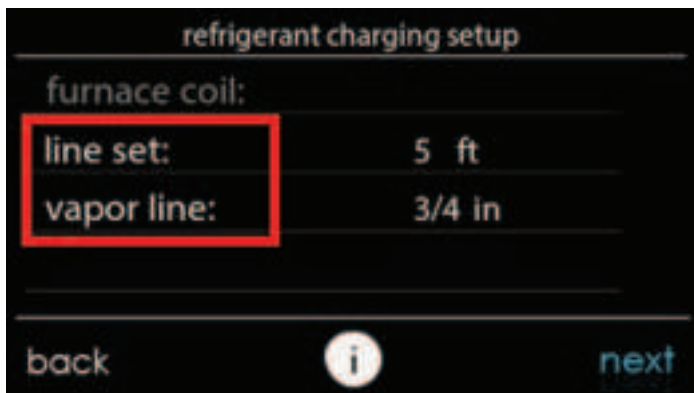

Fig. 17 – Select Line Set Length & Vapor Line Diameter
11. Press the text "line set" and "vapor line" to choose line set length and vapor line diameter (see Fig. 17 and Fig. 18). After complete, press "next" to advance to next screen.